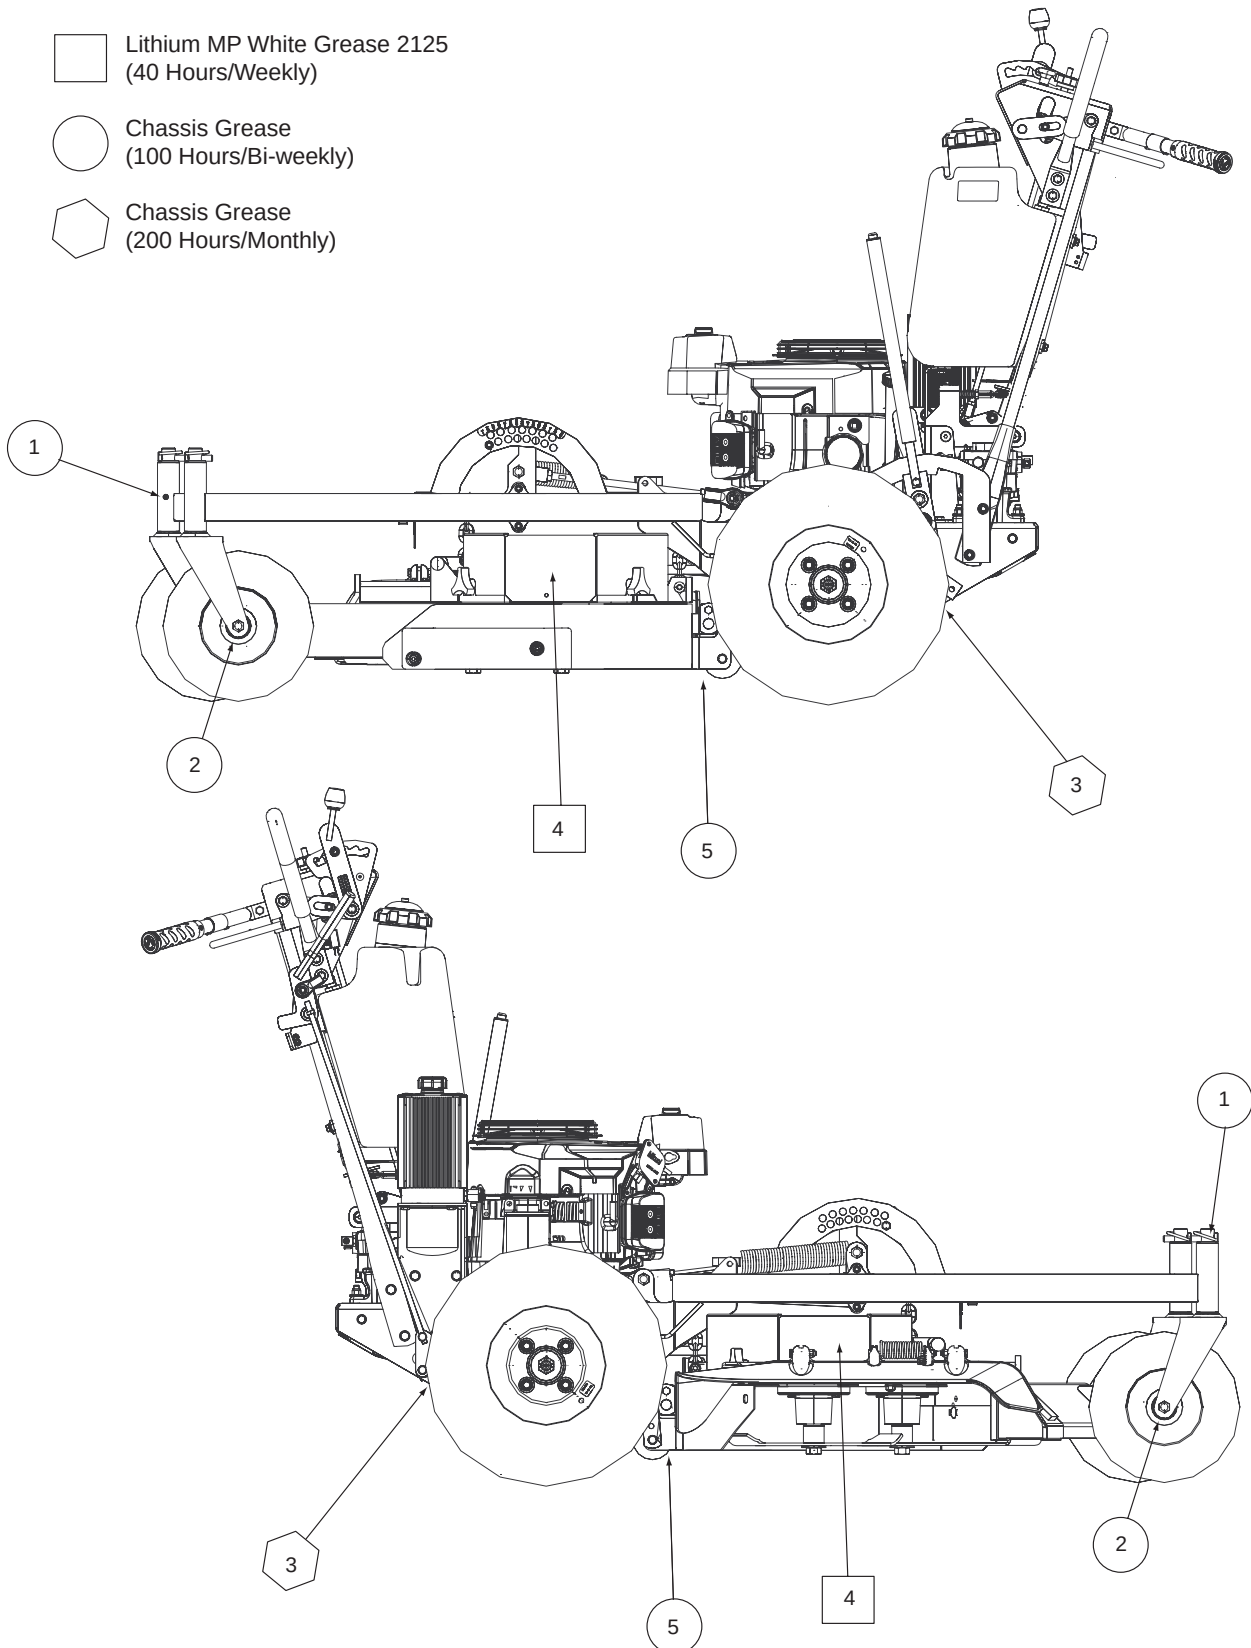

Figure 7.1 Lubrication Fitting Points
7.2 LUBRICATION - GREASE FITTING LUBRICATION CHART (SEE FIGURE 7-1, PAGE 27)